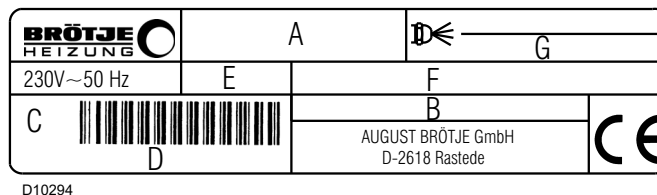

Fig. 4
- the model **A**) (Fig. 4) and type of burner **B**);